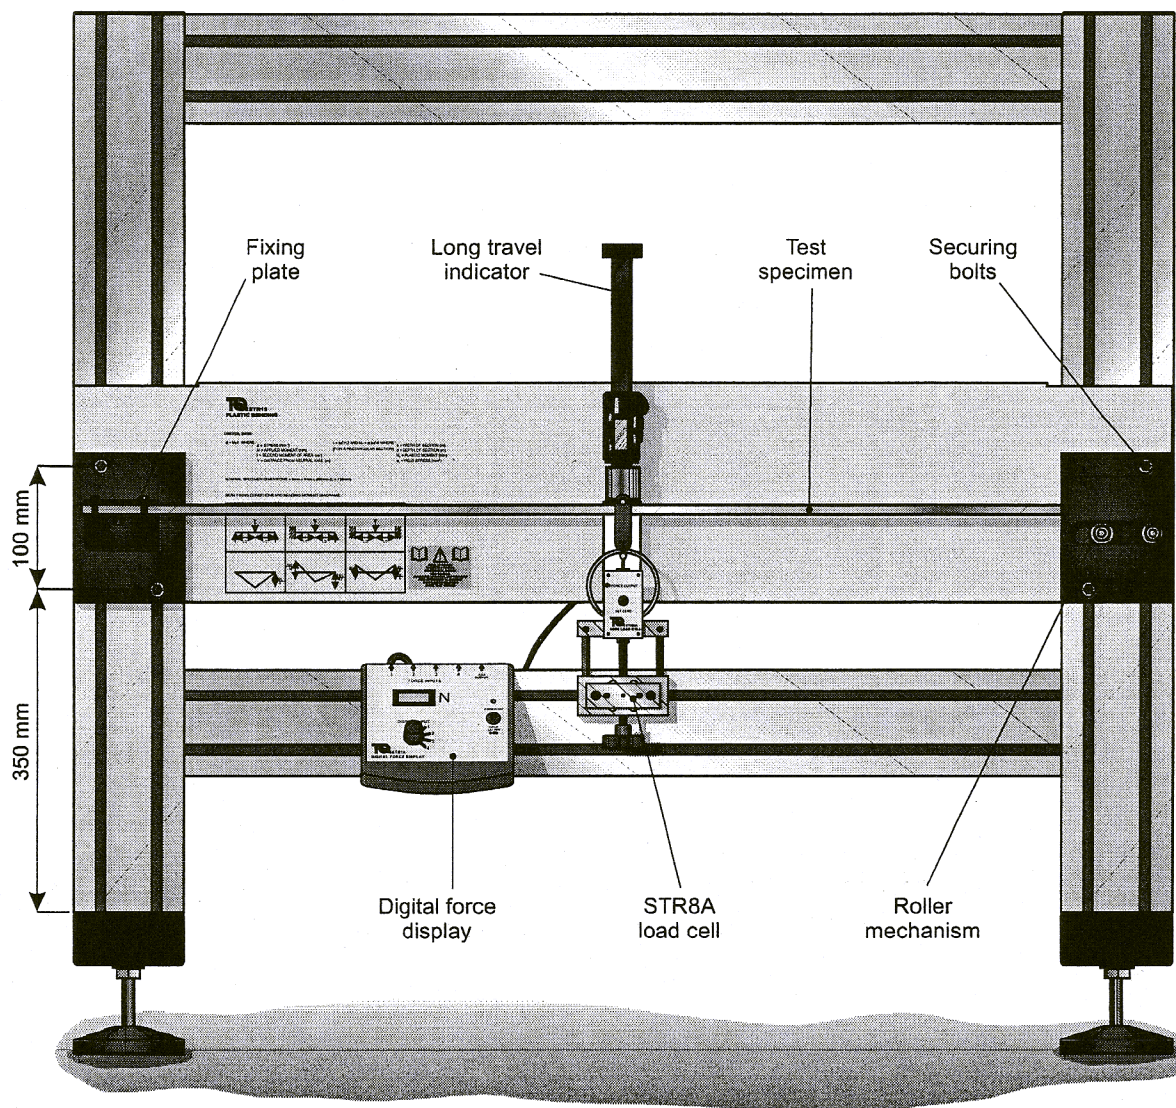

Figure 2 Plastic Bending of Beams Experiment in the Structures Frame
Figure 2 shows the Plastic Bending of Beams experiment assembled in the Structures Test Frame. Before setting up and using the equipment, **always:**
2. There are two securing nuts in each of the side members of the frame (on the inner track). Move one from each side to the outer track (see STR1 instruction sheet) then slide all four nuts to approximately the positions shown in Figure 2.